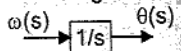
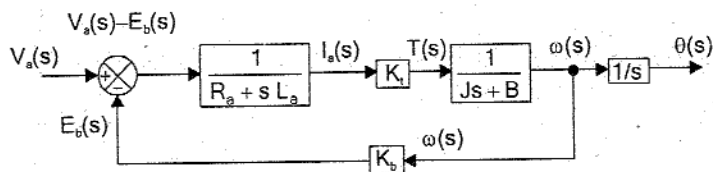

Fig 5.
Fig 6 : Block diagram of armature controlled dc motor.
In equation (10), $\omega(s)$ is the input and $\theta(s)$ is the output. Hence equation (10) is rearranged and the block diagram for this equation is shown in fig 5.
The overall block diagram of armature controlled dc motor is obtained by connecting the various sections shown in fig 1 to fig 5. The overall block diagram is shown in fig 6.